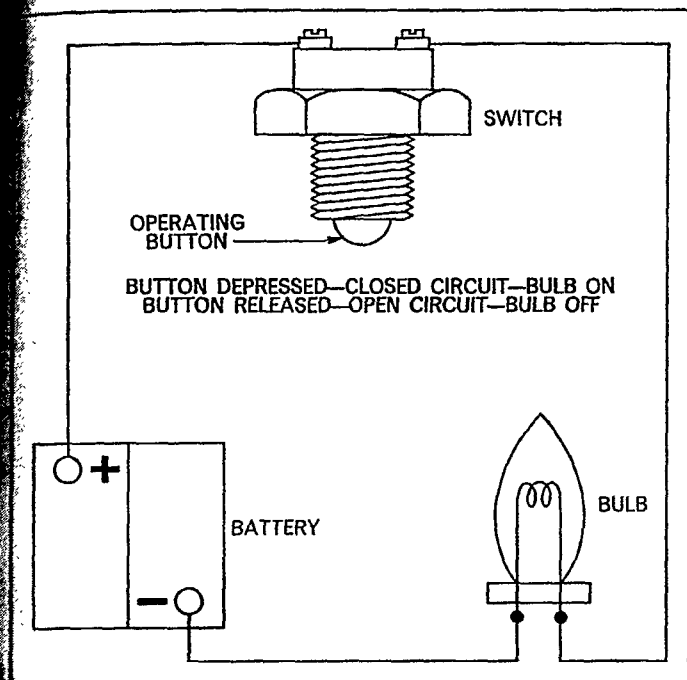

Figure 5
1. Using a suitable test bulb, wires and battery, Figure 5, test the starter safety switch for correct operation by depressing the operating button which should close the circuit and light the test bulb. On releasing the operating button the test bulb should be extinguished. If the switch is faulty install a new part.